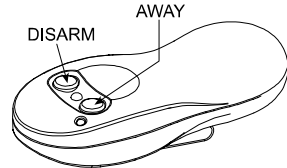

Figure 14. MCT-132 / 102
D. MCT-132 / 102* (Fig. 14): (N.A. in North America) 2-button units. MCT-132 (CodeSecure) can perform functions as shown. MCT-102 (PowerCode) can perform emergency and non-alarm tasks. Both units look alike.